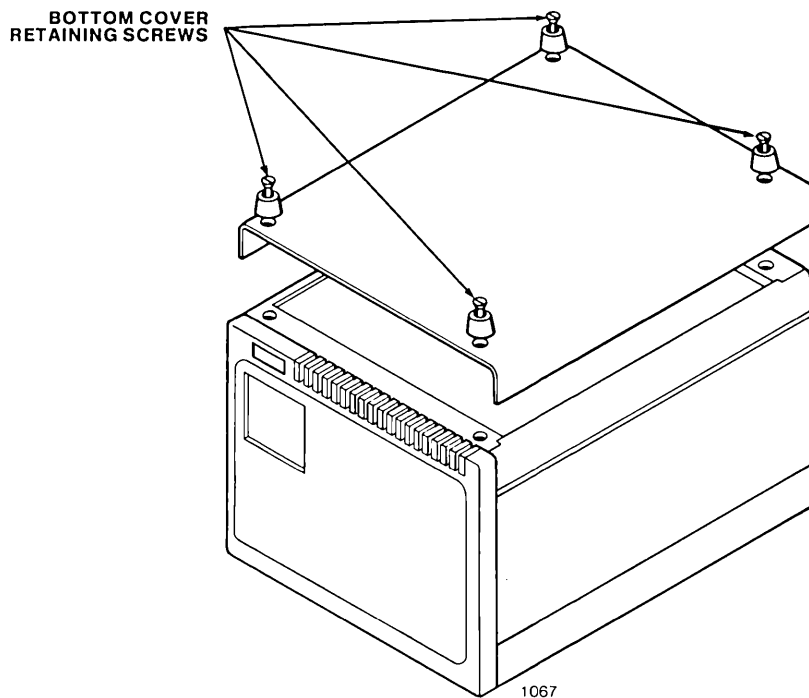

Figure 4-19. Bottom Cover Retaining Screw Locations
3. Turn the chassis onto its top to gain access to the four screws securing the bottom cover to the chassis. As Figure 4-19 shows, the screws are at the four corners of the bottom cover and located inside the bumpers.